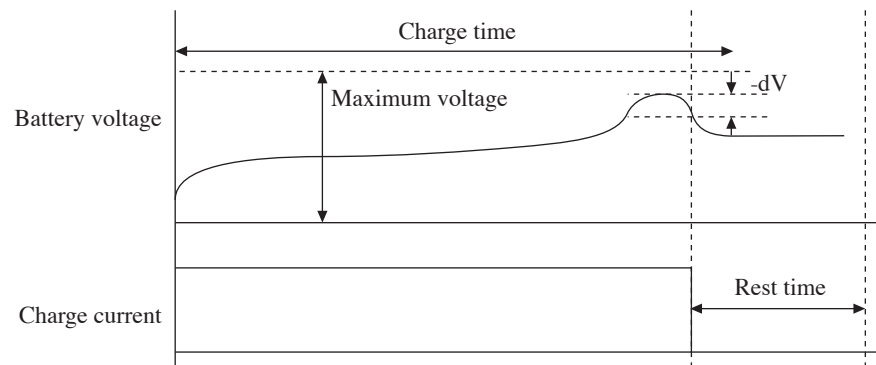

Fig. 5-17 Illustration of Constant Current Charge
Fig. 5-17 shows an illustration of the constant current charge (CC) operation. The figure illustrates the transition of constant current charge → -dV detection → charge termination → charge rest.